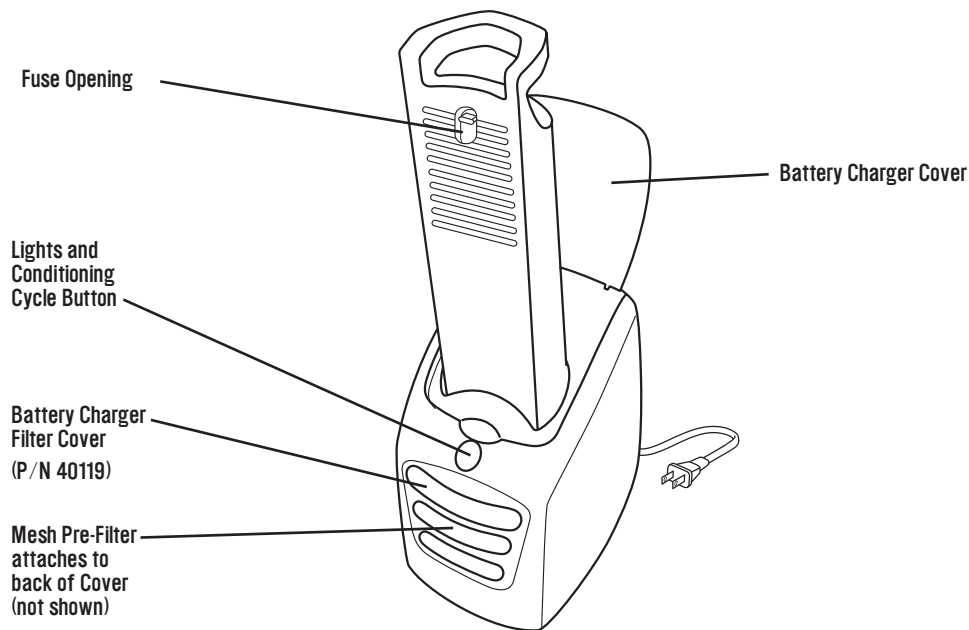

Figure 1b
4. The Fuse Opening is located in the upper section of the Battery Pack, near the Vent Air Slots. Firmly press the Fuse into position. (See Figure 1b.)
2. Lift the Battery Charger Cover. Grasping the Battery Pack firmly by the Handle, insert the Battery Pack into the Charger Compartment. (See Figure 1b.)